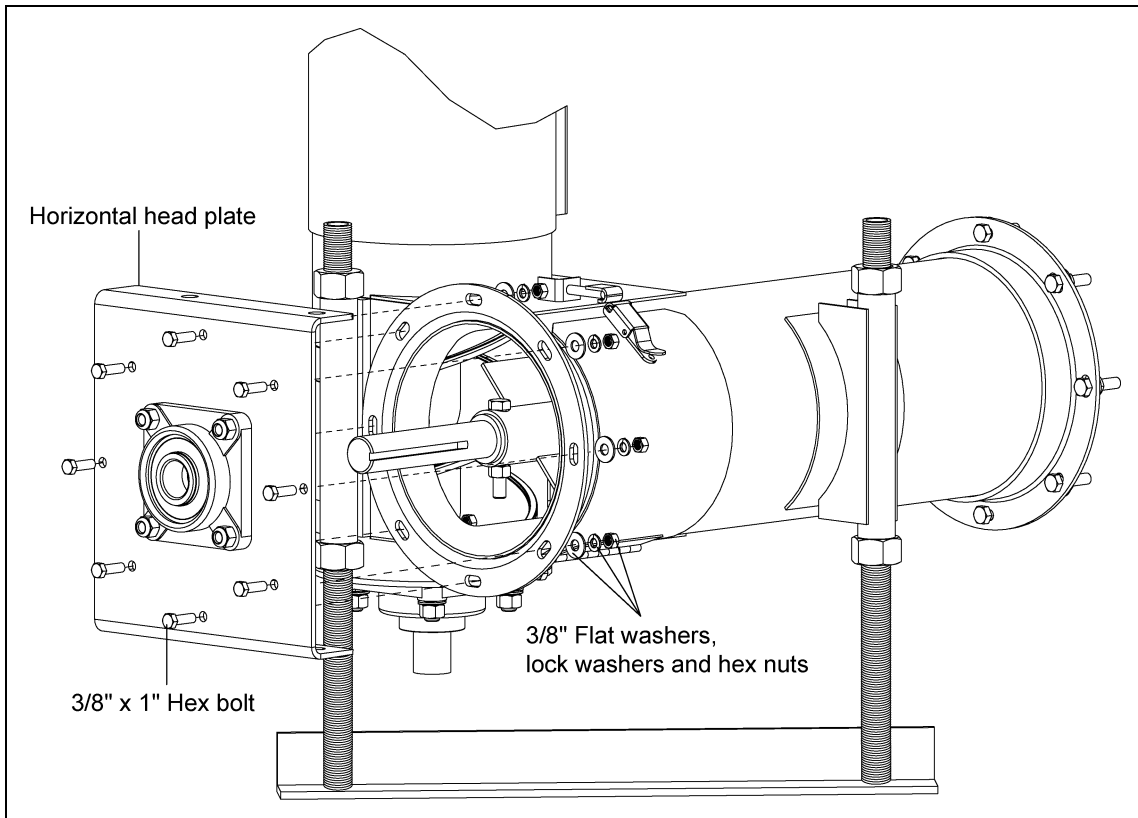

Figure 4D
- Remove the horizontal head plate from the vertical auger by removing the eight (8) 3/8" x 1" hex bolts, flat washers, lock washers and hex nuts. (See Figure 4D.)